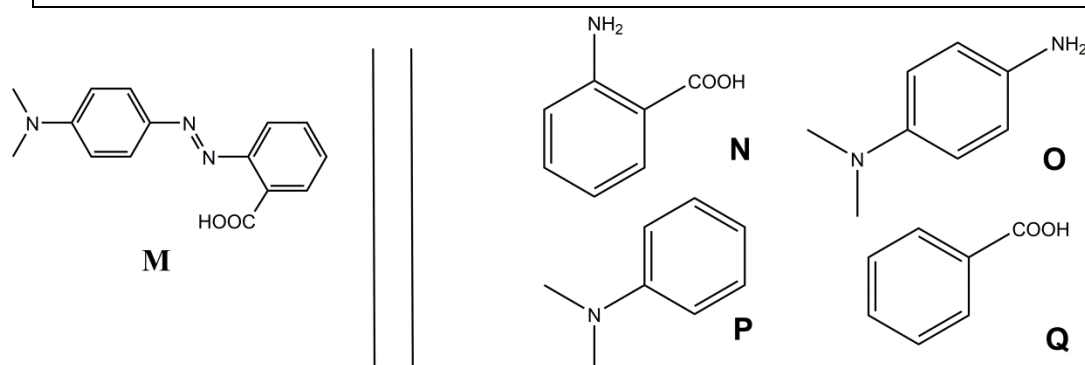

Fig. 1 – Possible reactants for the synthesis of **M**.
2. **M** can be synthesised in two steps from simple reactants (Fig. 1). Sodium nitrite ( $\text{NaNO}_2$ ) in cold aqueous hydrochloric acid is used as the reagent for the first step of the synthesis. **Choose** from the suggested reactants (**N** to **Q**) the ones that can provide **M** with very high regioselectivity.